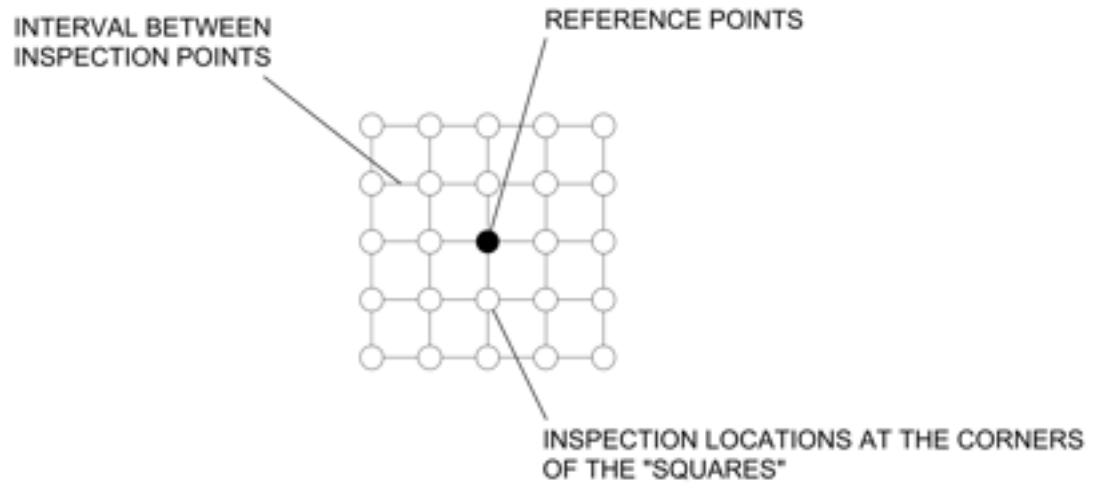

Figure 4
- 5 Locate the reference point at the corner of a square, refer to Figure 4. Take conductivity values working away from the reference point in the increments and distance found in Step 4. Enough information should be included along with the conductivity values so a person unfamiliar with the inspection can find the data point.
NOTE: Structural considerations may not allow the test points to follow the pattern of Figure 4. It is up to the inspector to decide on a pattern that best works with the area for inspection.